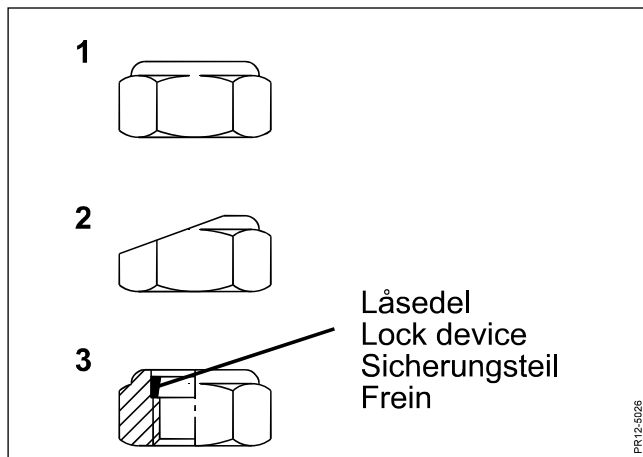

Fig. 5-10
- Fig. 5-10** The special nut must be replaced if: